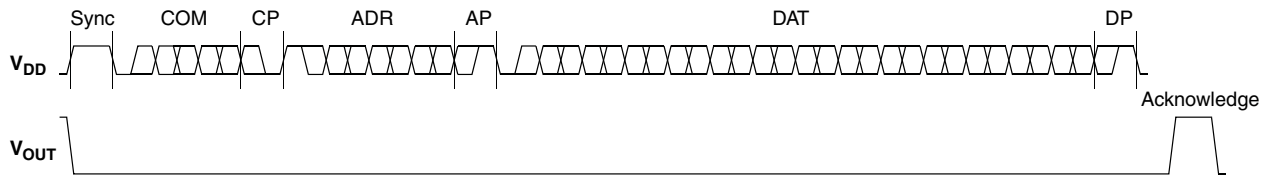

Fig. 5-2: Telegram for coding a Write command
- Write a register (see Fig. 5-2)